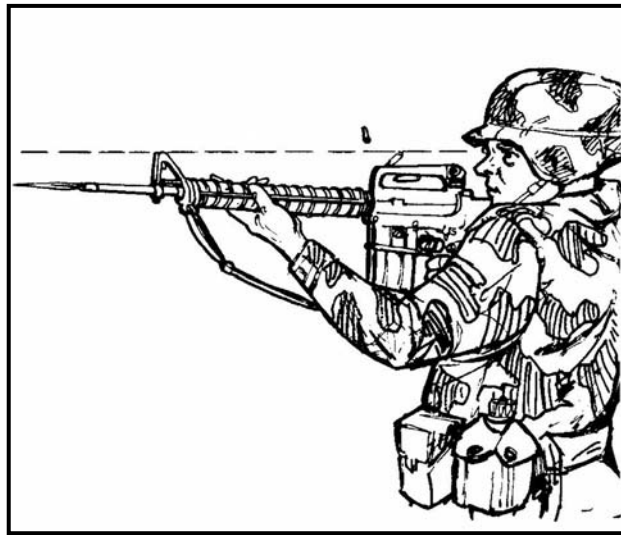

Figure 7-15. Aimed quick fire.
(1) ***Aimed.*** When presented with a target, the soldier brings the rifle up to his shoulder and quickly fires a single shot. His firing eye looks through or just over the rear sight aperture. He uses the front sight post to aim at the target (Figure 7-15). Using this technique, a target at 25 meters or less may be accurately engaged in one second or less.